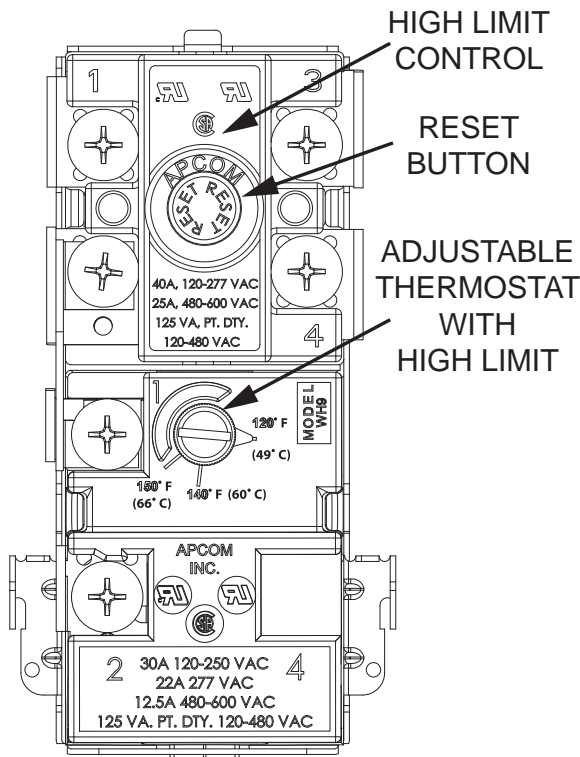

Figure 8.
**HOTTER WATER CAN SCALD:** Solar water heaters are intended to produce hot water. Water heated to a temperature which will satisfy clothes washing, dish washing, and other sanitizing needs can cause scalds resulting in serious personal injury and/or death. Some people are more likely to be permanently injured by hot water than others. These include the elderly, children, the infirmed, or physically handicapped. If anyone using hot water in your home fits into one of these groups or if there is a local code or state law requiring a certain temperature water at the hot water tap, then you must take special precautions. Please see Figure 8 and Table 2 for information regarding thermostat settings. In addition to using the lowest possible temperature setting that satisfies your hot water needs, some type of mixing device, such as a mixing valve should be used at the